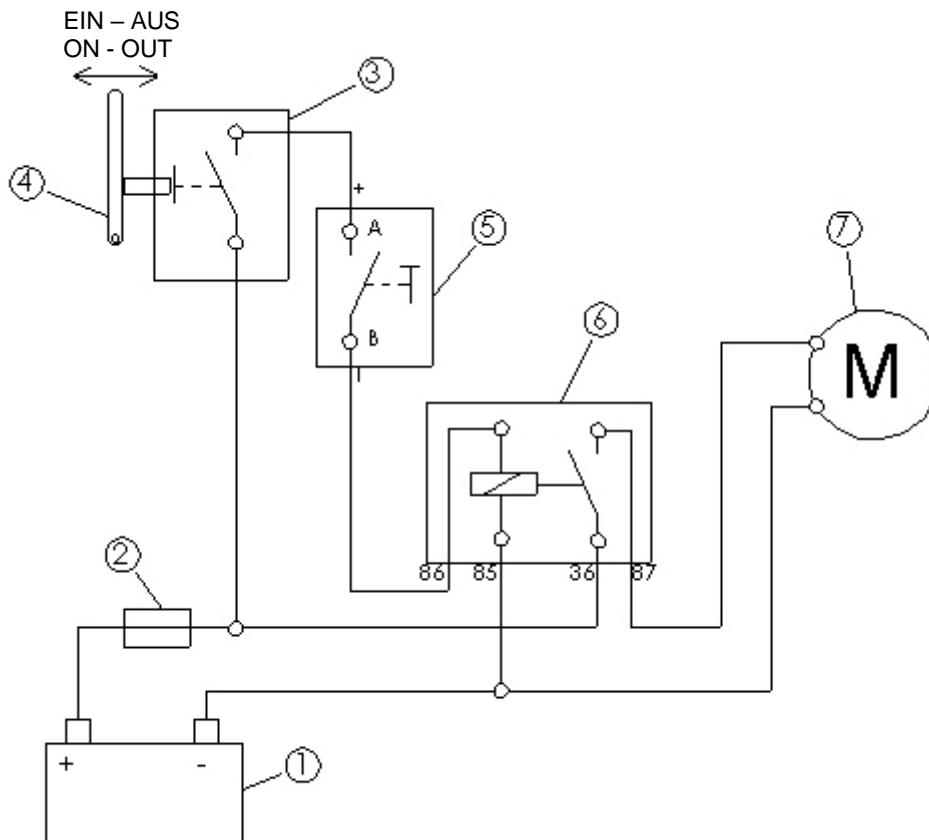

Fig. 7
Pass the cables (cross-section at least 6 mm²) according to **Fig.7**.
Battery (Item1): Due to the high amperage, it is strictly necessary to connect the cables directly there! (see **Fig.7**)
Mount the button (Item 3) into the cabin in manner that, when the harvester header is activated with the lever, (Item 4; see Fig. 7) the switch contact is closed. There are harvesters where the header is not activated mechanically via a lever (Item 4) , but electrically via a toggle switch. In this case, the line to the rotary switch (Item 5) must be connected there. The toggle switch therefore assumes the function of the button (Item 3).
- via a button (Item 3), which is actuated by a lever (item 4). (see **Fig. 7**)